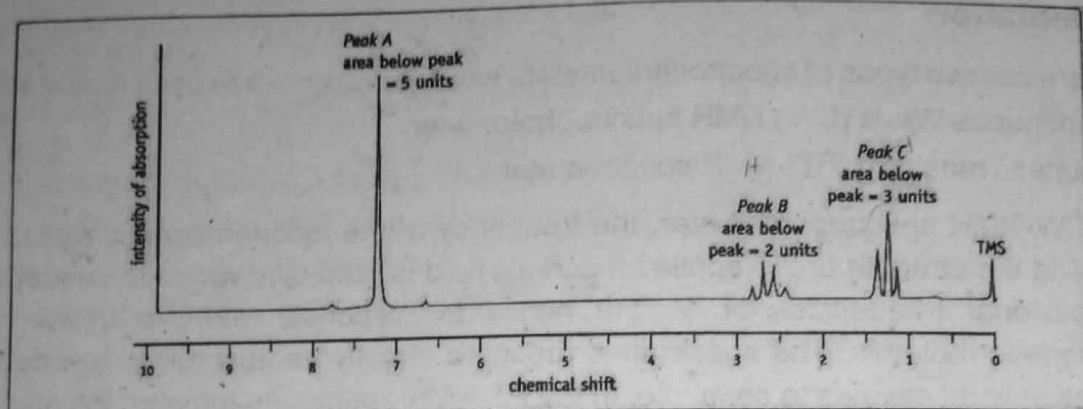

Figure 24.8: The proton NMR spectrum of ethylbenzene,  $\text{C}_6\text{H}_5\text{CH}_2\text{CH}_3$
Figure 24.8 shows the NMR spectrum of ethylbenzene  $\text{C}_6\text{H}_5\text{CH}_2\text{CH}_3$ . This is a proton NMR spectrum: the frequencies correspond to the absorption of energy by  $^1\text{H}$  nuclei, which are protons. Notice that there are three major peaks of differing heights. Each peak corresponds to H atoms in a different molecular environment. This area under each peak is proportional to the number of that type of H atom in the molecule. The largest peak (A) corresponds to the 5 H atoms in  $\text{C}_6\text{H}_5$ , the benzene ring. The second largest (C) corresponds to the 3 H atoms in the  $-\text{CH}_3$  group and the third peak (B) corresponds to the 2 H atoms in the  $\text{CH}_2$  group.